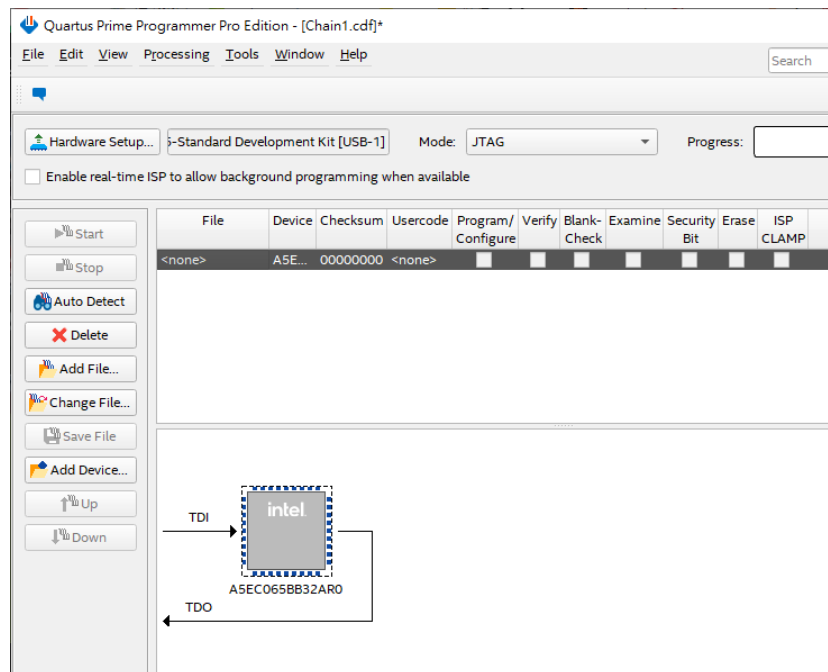

Figure 3-6 FPGA detected in Quartus programmer
4. The Agilex 5 FPGA should be detected, as shown in **Figure 3-6**.